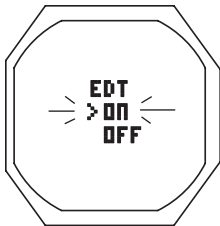

Fig. 130 - SET FREE EDT AL
**Set EDT Alarm,** information includes (Fig. 130):